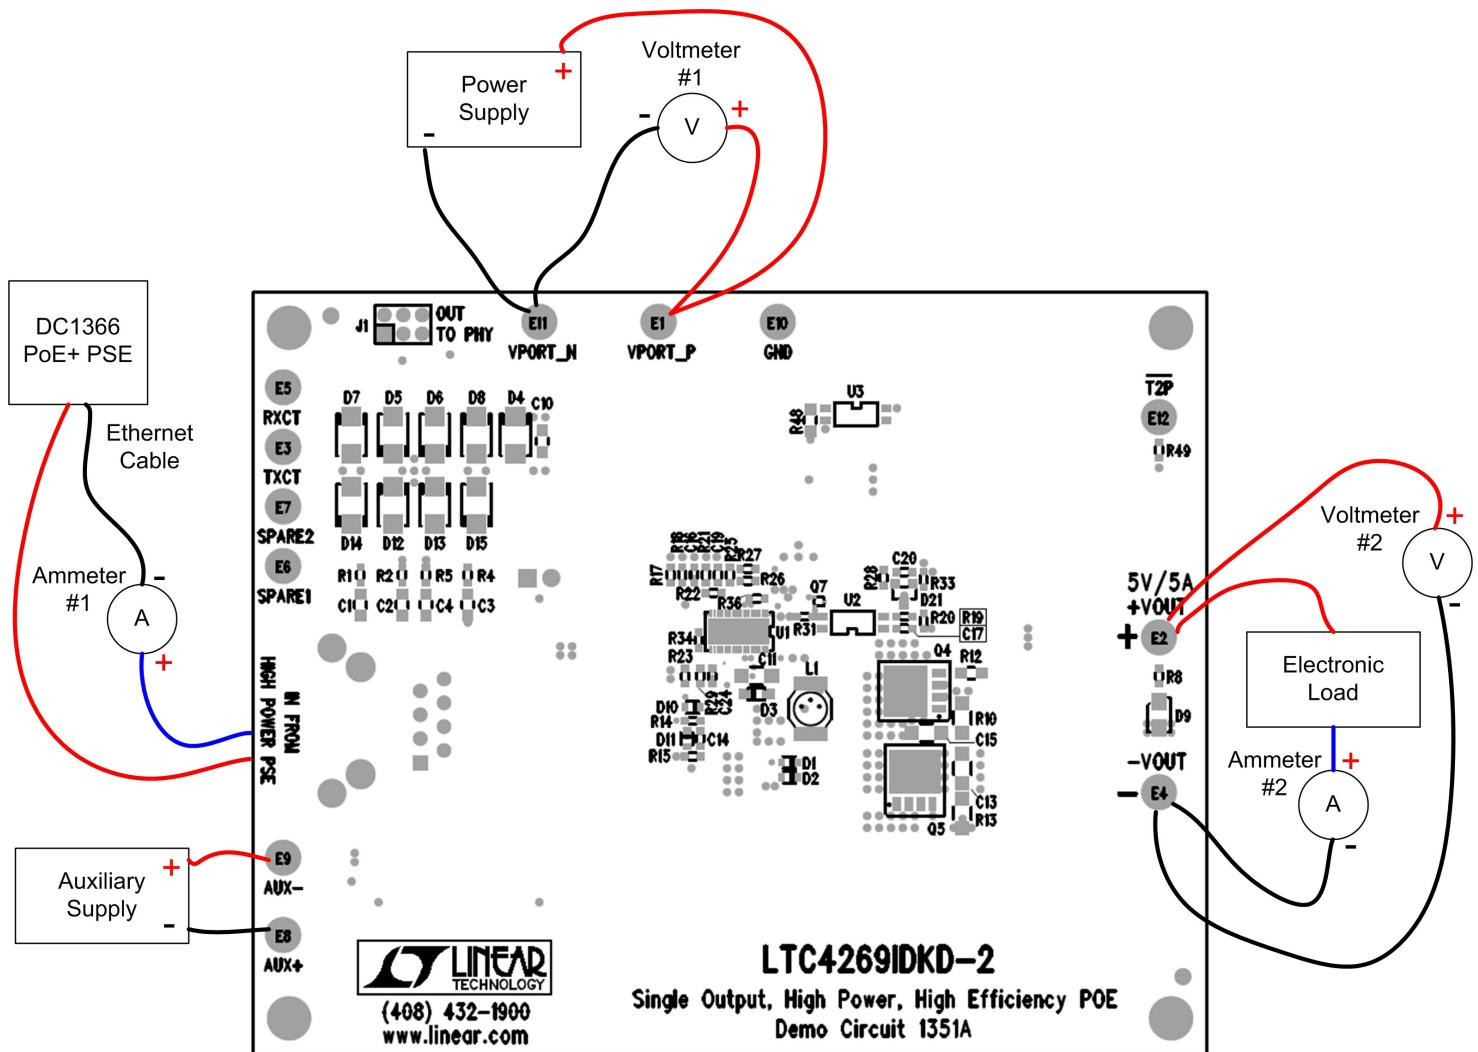

Figure 1. Proper Measurement Equipment Setup
Demonstration circuit 1351A is easy to set up to evaluate the performance of the LTC4269IDKD-2 in a PoE+ PD application. Refer to Figure 1 for proper equipment setup and follow the procedure below:
- a. Connect a PoE+ capable PSE with a CAT-5 cable to the RJ45 connector, J2. See Figure 1.
- b. Or, connect a 37V to 57V capable power supply (“Power Supply” in Figure 1) across $VPORT_P$ and $VPORT_N$.
- c. If evaluating the auxiliary power supply (“Auxiliary Supply” in Figure 1) capability, connect a 44V to 57V capable power supply across $AUX+$ to $AUX-$.